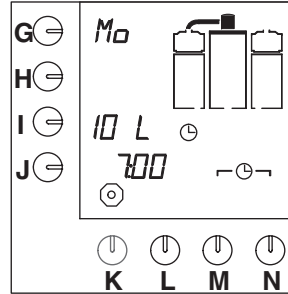

Fig. 15 Waiting mode timer
- An enter symbol appears ↵ on the display. The clock in the display starts flashing and the system will make coffee at the set time. The waiting mode appears on the display (fig.15).
- The clock in the display starts flashing and the system will make coffee at the set time. The waiting mode appears on the display (fig.15).